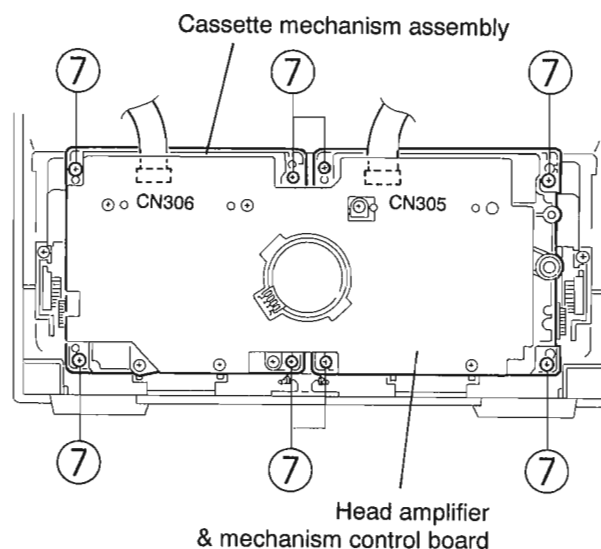

Fig. 3-23
■ Removal of the Cassette Mechanism Assembly (See Figs. 3-23)
4. Remove the eight screws ⑦ fastening the cassette mechanism assembly to the inside of front panel assembly.